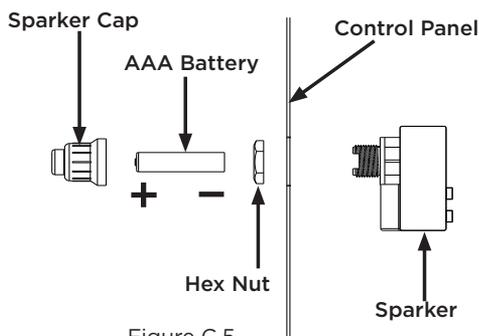

Figure C.5
- Remove sparker cap and hex nut from the sparker. See Figure C.5